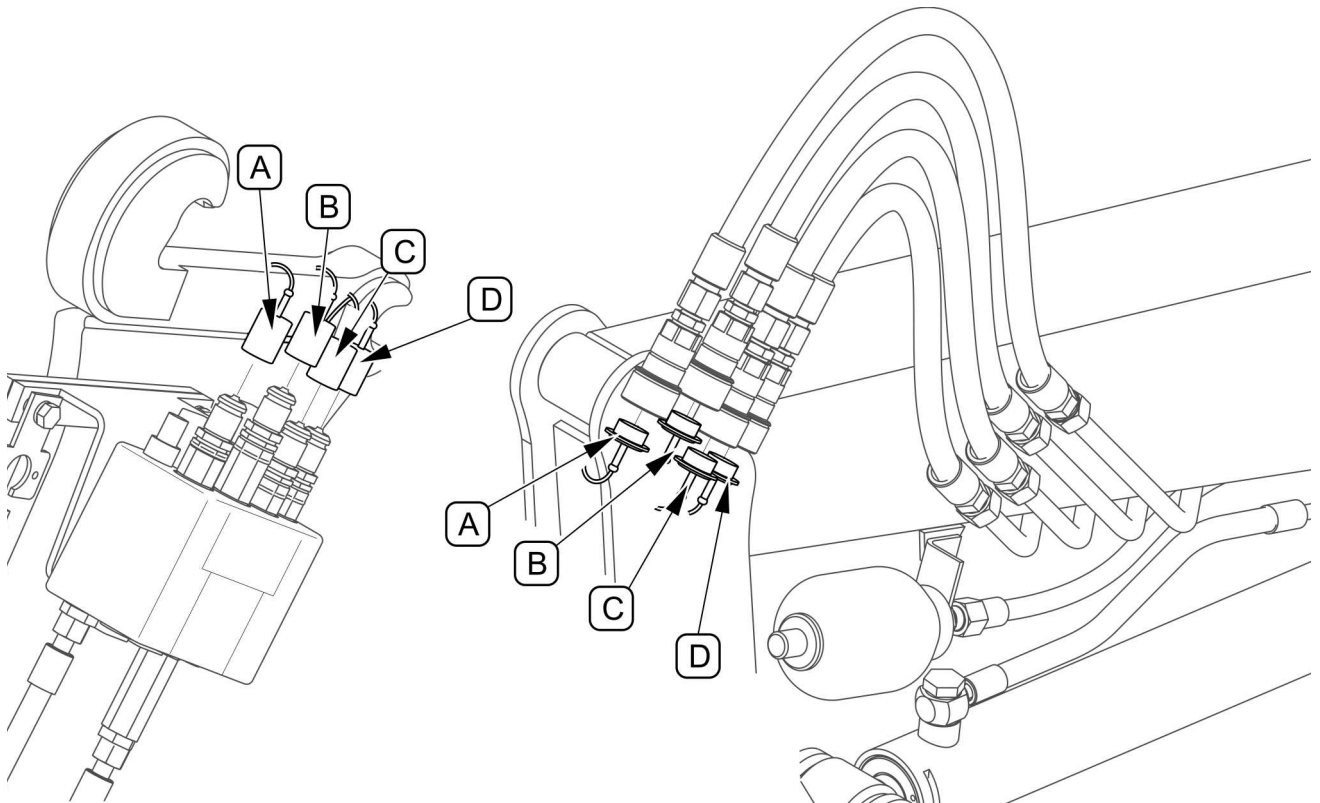

FIGURE 4.17. The colours of the plugs of the hydraulic connectors
- properly connect the hydraulic lines of the loader to the hydraulic distributor (FIGURE 4.17),
- check that both levers (1) of the quick coupling lock are in the open position (to the rear)
- set the lock levers (1) to the front (locked position)
- secure both levers with cotter pins (2)